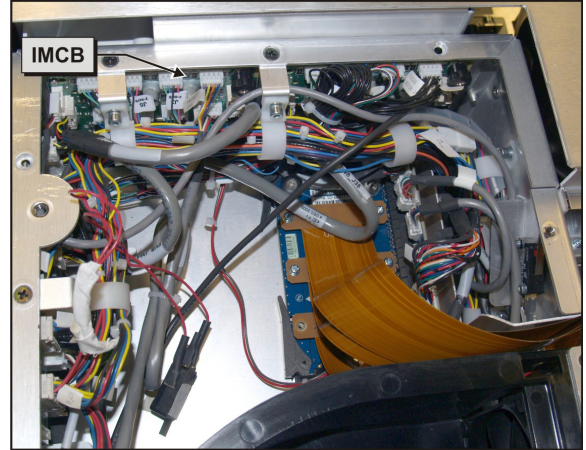

Figure 5-30 IMCB
8. Disconnect the 11 harnesses from the Intelligent Motor Control Board (IMCB). See **Figure 5-30**.